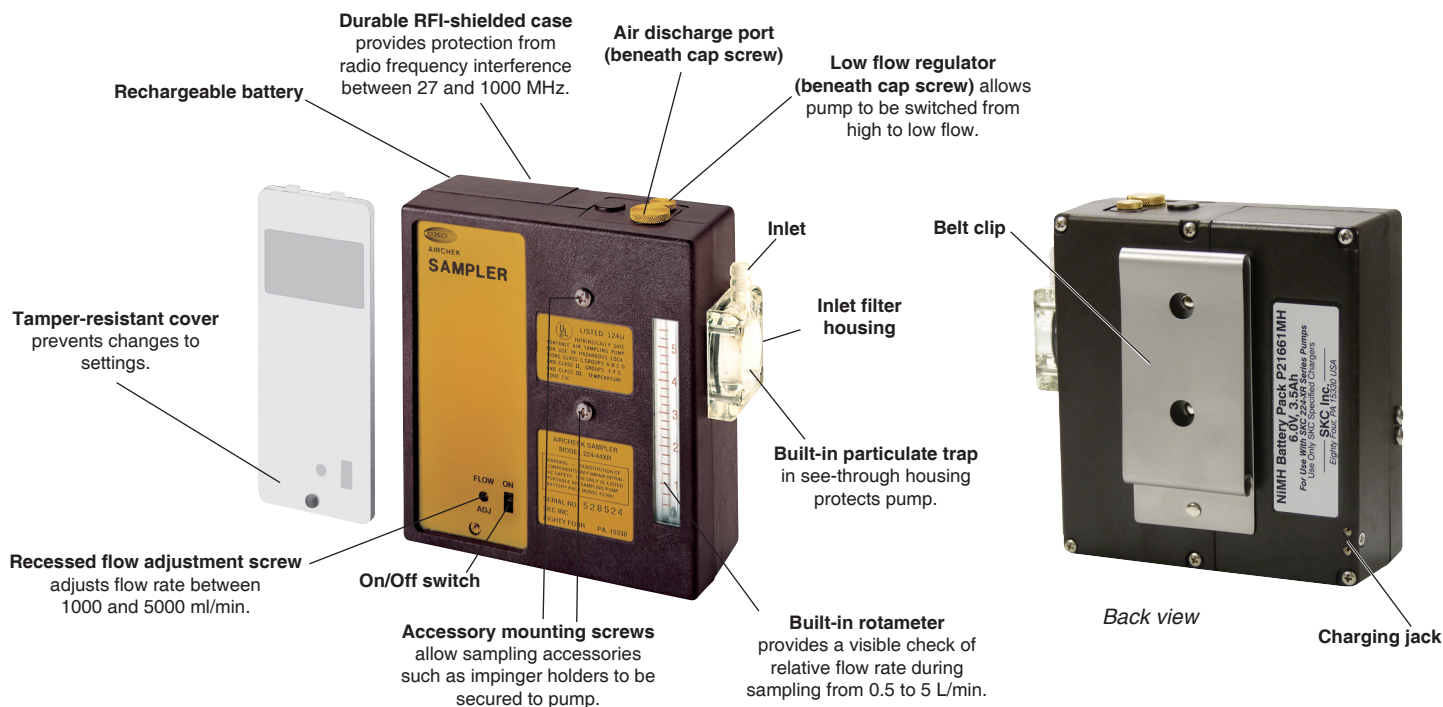

Figure 1. Front and back views of 44XR Universal Sample Pump
The 44XR Universal Sample Pump (Figure 1) is a constant flow (from 5 to 5000 ml/min) air sampler suitable for a broad range of applications. It is ideal for industrial hygiene studies as well as environmental testing.
3. Insert the charging plug end of the cable into the jack on the back of the pump's battery pack (Figure 1).
Turn Pump Power On/Off (Figure 1)
1. To ensure the pump is set for high flow, remove the cap screw (*Figure 1*) covering the regulator valve and turn the exposed screw **clockwise** until it stops. Do not overtighten. *See right.*
4. Set the flow rate using the flow adjustment screw (*Figure 1*) until the calibrator indicates the method-specified flow rate. Take a minimum of three readings and record the average flow rate, as per OSHA/NIOSH instructions.
- b. **When using impingers, an in-line trap (SKC Cat. No. 225-22 or 225-22-01) is required to prevent fumes from accidentally being drawn into the sampler.** Place the in-line trap between the pump and the impinger. Mount the impinger and trap to the face of the sampler using the accessory mounting screws (*Figure 1*) or place them in a holster at the worker's waist.
3. Start sampling by turning on the pump using the on/off switch (*Figure 1*). Record the start time.